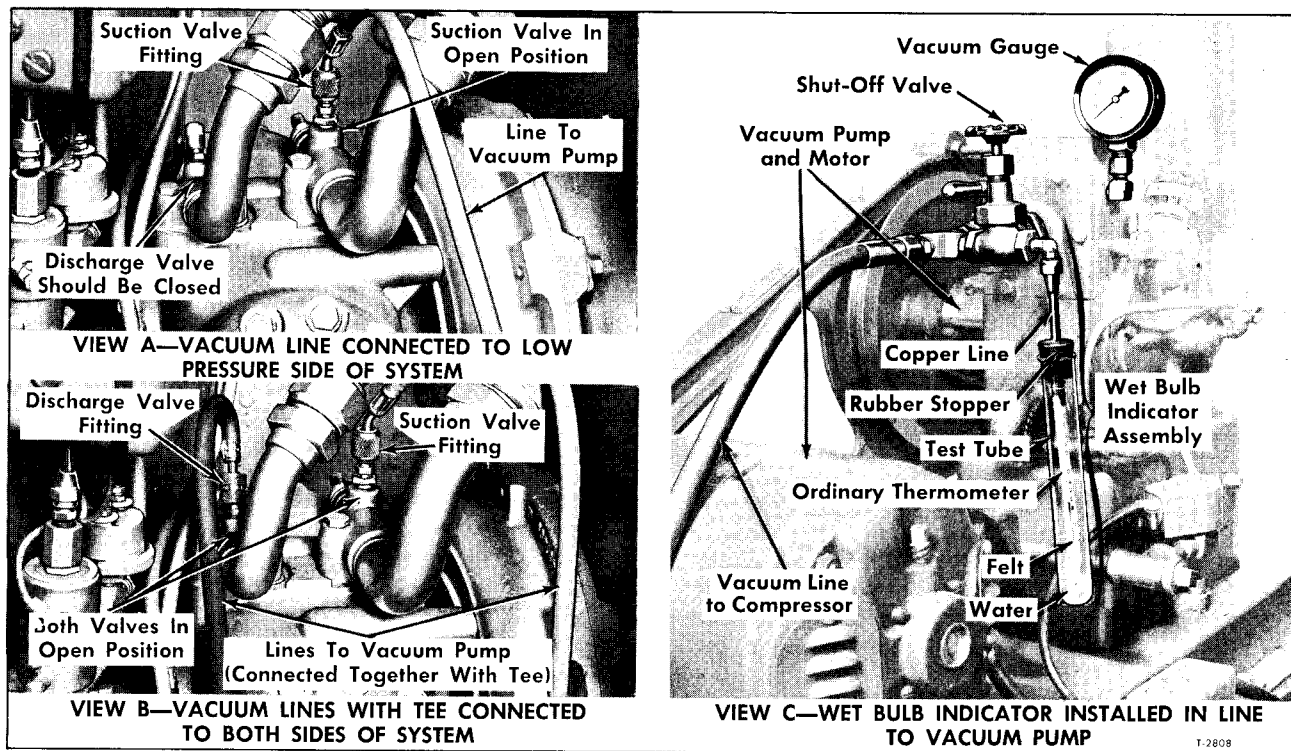

Figure 77—Evacuating the Refrigerant System
2. Connect one vacuum line to test gauge fitting at top of compressor suction valve, and the other to the compressor discharge valve test gauge fitting as shown in view B, figure 77.
3. Tee a branch line with a wet bulb indicator into vacuum line at pump as shown in view C, figure 77. **NOTE:** Wet bulb indicator can be improvised from a test tube, a short line, a rubber stopper, a narrow piece of felt (2 in. long) and an ordinary house thermometer.
1. Connect only one vacuum pump line to the test gauge fitting at top of compressor suction valve as shown in view A, figure 77.